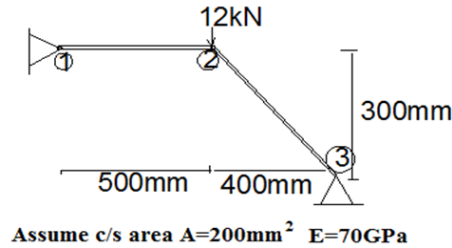

Figure 7
5. (a) For the two bar truss element shown in Figure 7, determine the displacement at Node 2 and stresses in the elements. Assume cross sectional area of each member $A=200\text{mm}^2$ and $E=70\text{GPa}$. [7M]